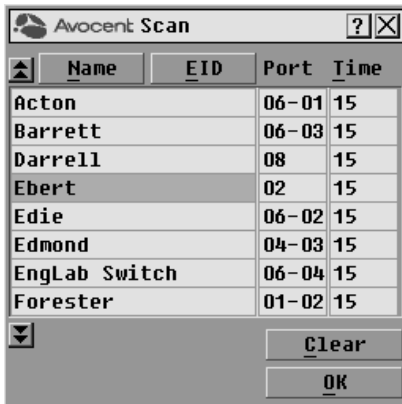

Figure 3.8: OSCAR Interface Scan Dialog Box
2. Click *Setup - Scan* to open the Scan dialog box shown in Figure 3.8.